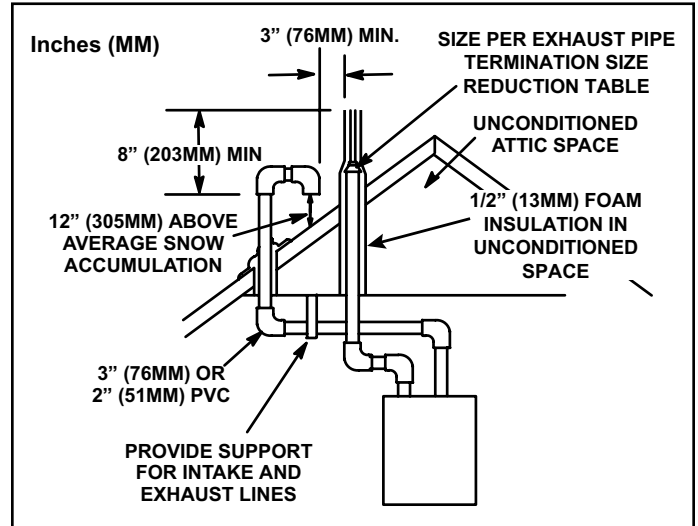

Figure 30. Direct Vent Roof Termination Kit (15F75 or 44J41)
Intake and exhaust pipes may be routed either horizontally through an outside wall or vertically through the roof. In attic or closet installations, vertical termination through the roof is preferred. Figure 30 through Figure 37 show typical terminations.
3. On roof terminations, the intake piping should terminate straight down using two 90° elbows (see Figure 30).